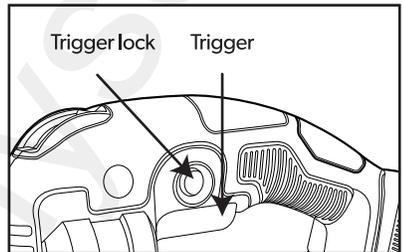

Figure 4
2. Squeeze the Trigger to turn on the Jigsaw. If operating the jigsaw for an extended period of time, press the Trigger Lock to lock the Trigger in its "ON" position. See Figure 4, right.